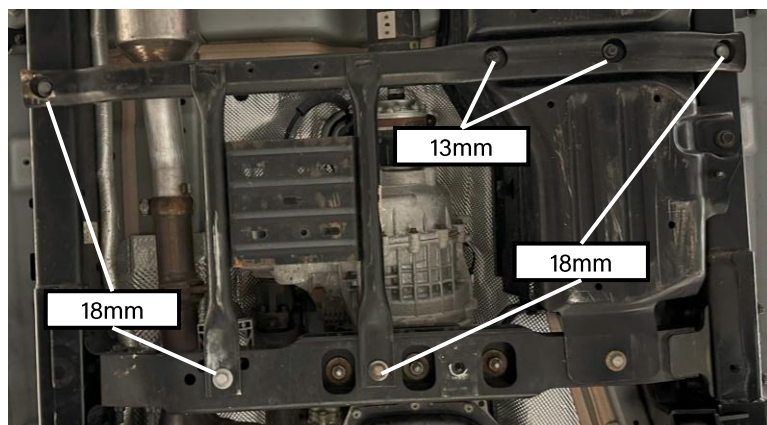

Figure 15: Transfer case skid plate bolts to remove
- ❑ Remove the transfer case skid plate using the socket sizes noted if it is not removed already (Figure 15)